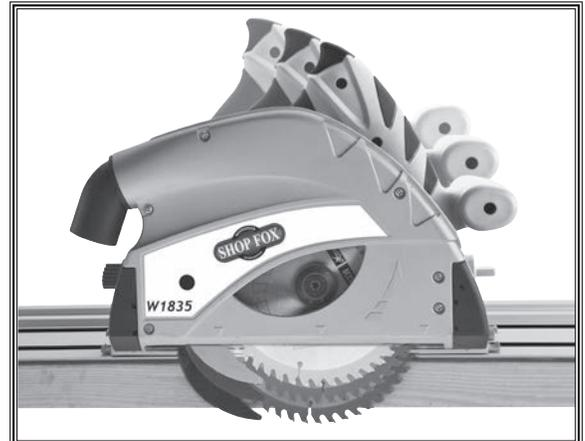

Figure 20. Plunge-action lowering for the cut.
6. Lower the blade until the set cutting depth is reached. The blade and riving knife will descend into the workpiece, as shown in **Figure 20**. Move the saw forward in an even, steady motion. When the front indicator arrow reaches the stop point, the cut has been completed.